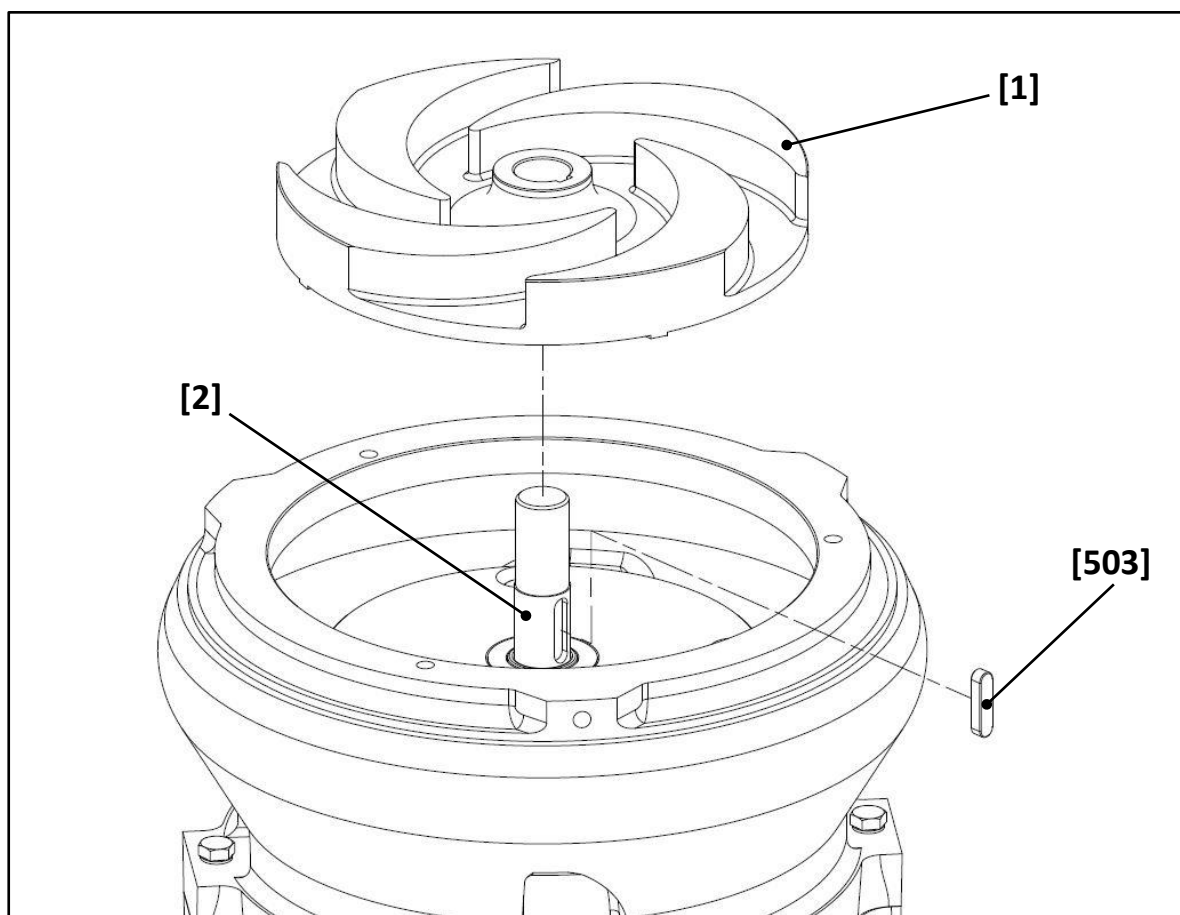

Fig. 30
- remove the impeller **[1]** and the key **[503]** from the shaft **[2]** (see **Fig. 30**).